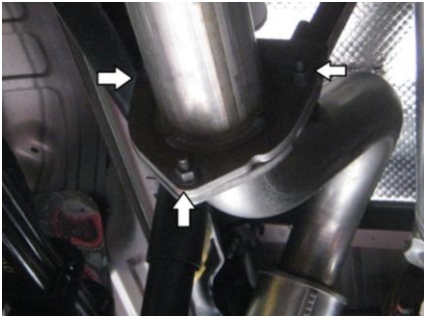

Figure 1
2. Loosen the three (3) nuts securing the extension pipe flange to the over-axle pipe. **Refer to Figure 1.**